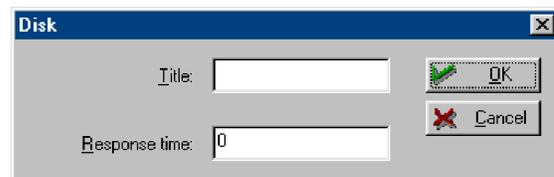

Figure 8.25 Disk dialog box
- 4 From the **Disk** dialog box (Figure 8.25), enter the following information about the disk drive: